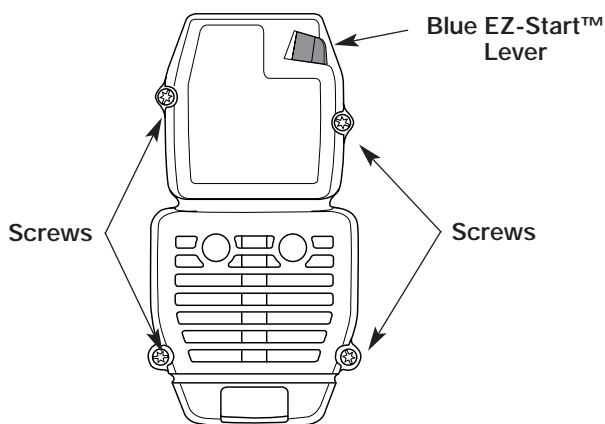

Fig. 36
1. Remove the four (4) screws securing the air filter/muffler cover (Fig. 36). Use a T20 Torx bit screwdriver.
2. Insert the four (4) screws into the holes in the air filter/muffler cover (Fig. 36) and tighten. **Do not over tighten.**